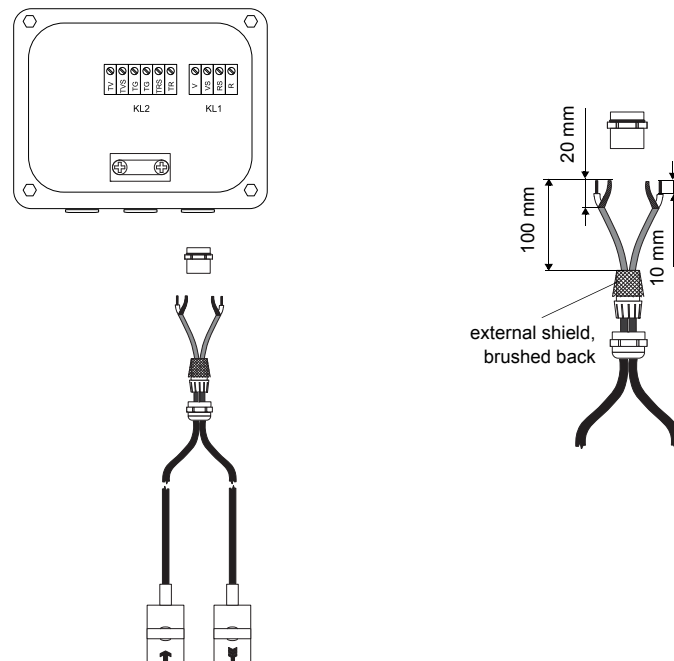

Fig. 7.8: Transducer cable with plastic cable jacket and stripped cable ends
- Remove the right blind plug for the connection of the transducer cable (see Fig. 7.8).
- Connect the transducer cable to the terminals of the junction box (see Fig. 7.8 and Tab. 7.4).